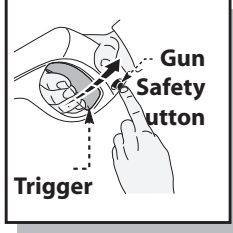

Fig.19
- Rotate nozzle on the adjustable lance to the narrow stream setting which opens up the fan blades Fig 19.